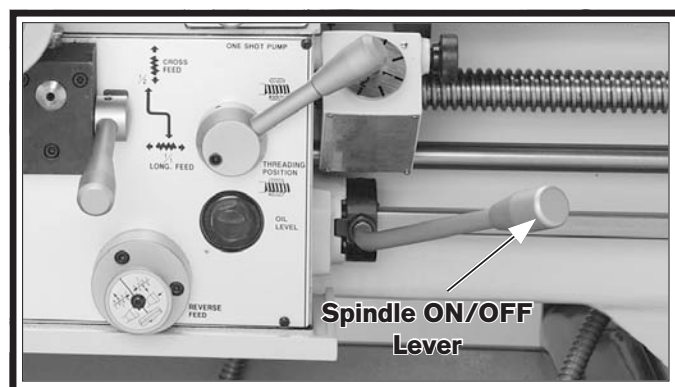

Figure 22. Spindle ON/OFF lever-setup.
11. Move the spindle ON/OFF lever to the **OFF** (center) position, as shown in **Figure 22**.